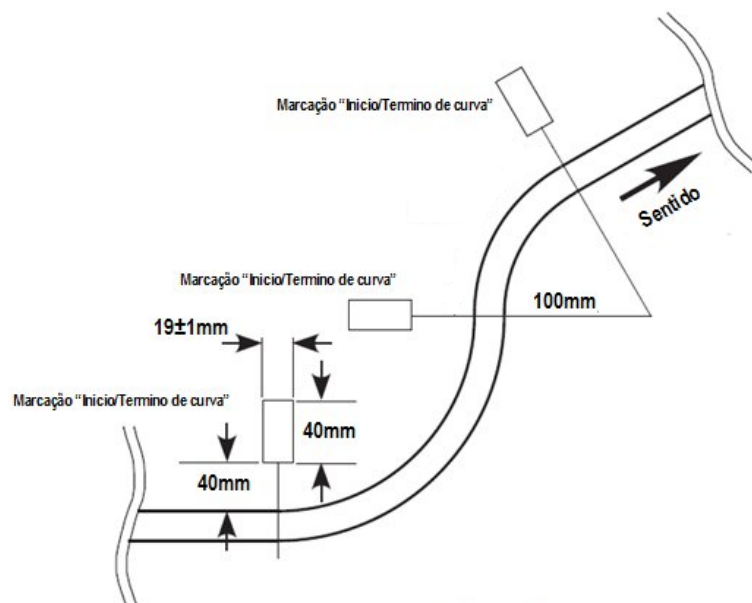

Figure 4: radii and curvature change markings.
4.13 The radius of the arcs is at least 100 mm (see figure 4).
4.14 There will be a marking on the left side of the line (in relation to the direction of the course) at the point where there is a change in curvature (see figure 4).
4.15 A course can have arcs with different curvatures connected continuously, always observing items 4.13 and 4.14 (see figure 4).